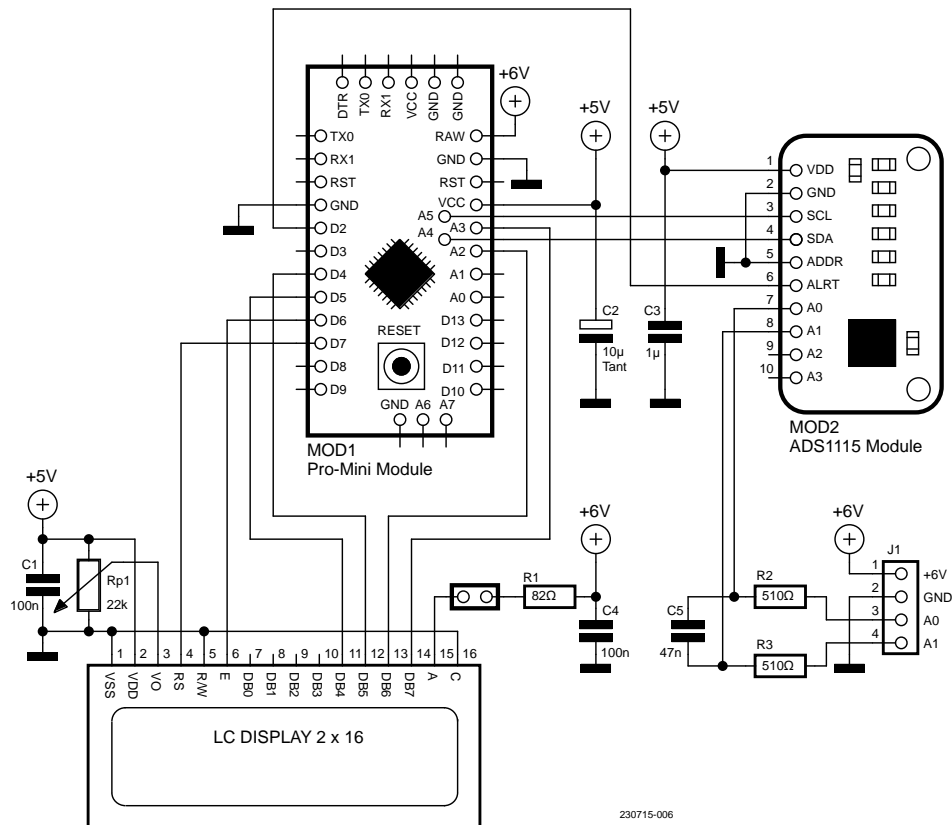

Figure 6: Schematic diagram of the DVM.
**Figure 6** shows the wiring diagram of the DVM. An Arduino Pro Mini, a very compact board, was used as the microcontroller, which also provides the 5 V to power the LCD and converter. In this project, inputs A0 and A1 of the ADC module configured as differential input are used. The consumption of the whole system ranges from about 20 to 25 mA if the LCD backlight is not used. The ideal voltage to be applied would be 6 V; the system also accepts higher voltages (12 V max) but the
tiny built-in regulator may overheat. The backlight current should not be taken from the internal regulator, but supplied by the external one with resistor R1 in series, as in **Figure 6**, which should be calculated according to the required current.